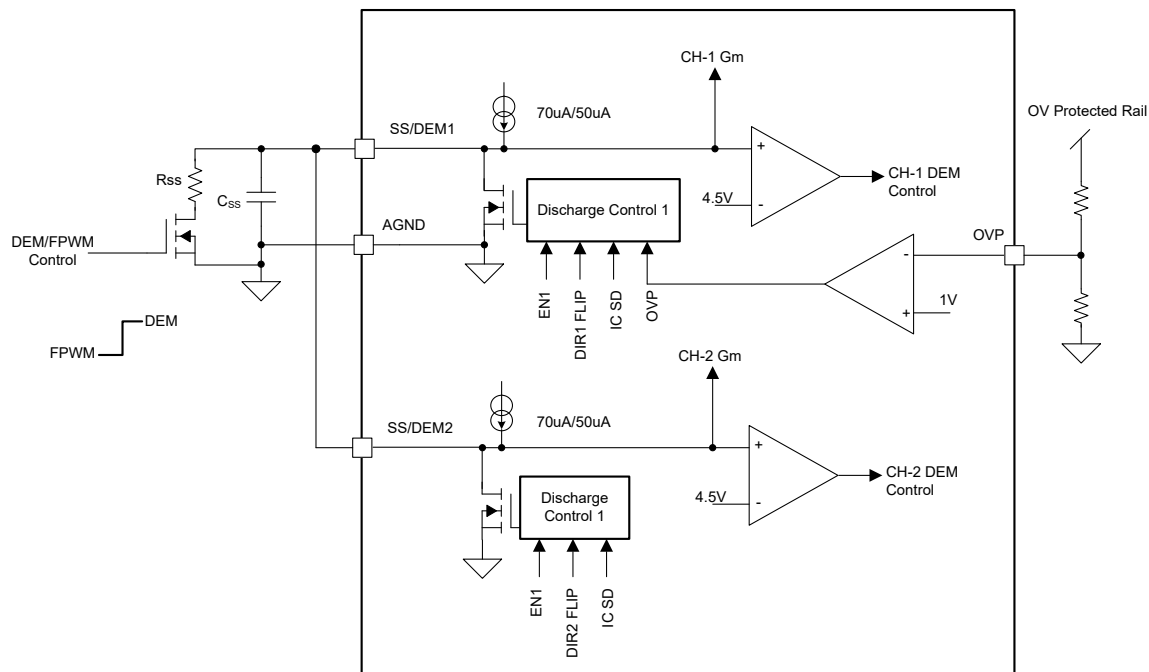
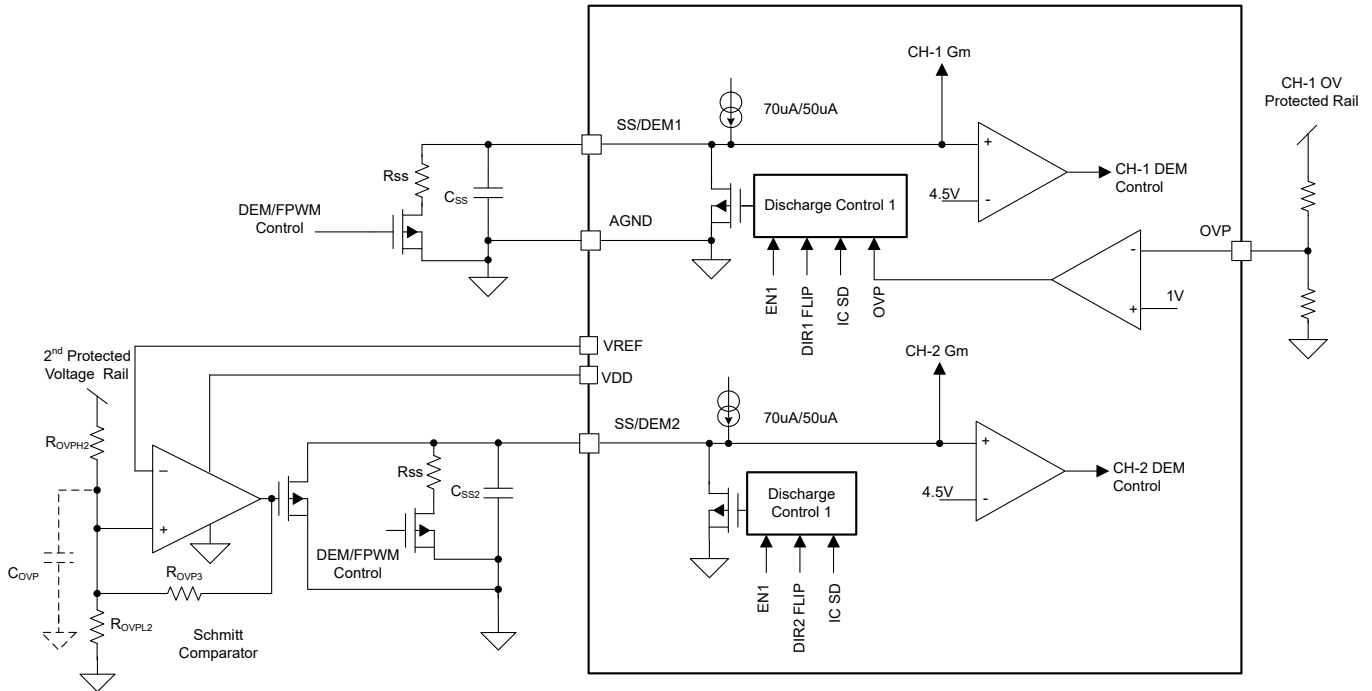
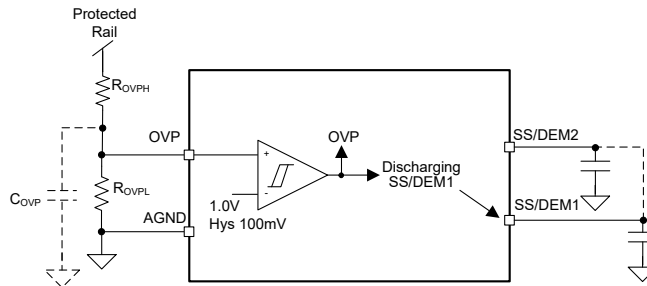
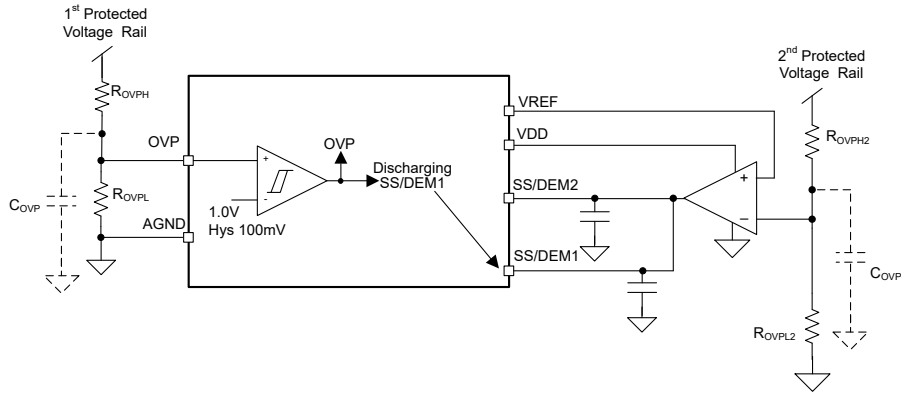

図 6-12. OVP Implementation for SS-DEM Pins Connection for Parallel Operation
図 6-13. OVP Implementation for Independent Channel Operation
Figure 6-22. OVP for CH-1 or Multiphase Parallel Operation
図 6-23. OVP for 2nd Protected Voltage Rail in Multiphase Parallel Operation
Note that OVP only affects SS/DEM1 but not SS/DEM2. For multiphase parallel operation, connect SS/DEM1 and SS/DEM2 to enable the same hiccup mode in CH-2 as shown in 図 6-12. For independent channel operation, an external OVP protection circuit is needed for CH-2, and that circuit must be configured to discharge SS/DEM2 to achieve OVP and also the hiccup mode operation. 図 6-13 shows an example of such an external OVP implementation for CH-2. See 図 6-22 and 図 6-23 for other examples.
As shown in Figure 6-22, the LM5171 includes the over voltage protection function, which can be used to monitor either the HV-port, or the LV-port, or a user defined voltage rail, through a resistor divider at the OVP pin.
- For multiphase parallel operation, connect SS/DEM1 and SS/DEM2 to enable OVP for both channels as shown in Figure 6-22.
- For additional voltage rail OVP, employ an external circuit as shown in Figure 6-23, in which an open drain comparator can discharge C_{SS1} and C_{SS2} once the protected railed voltage exceeds the OVP threshold.